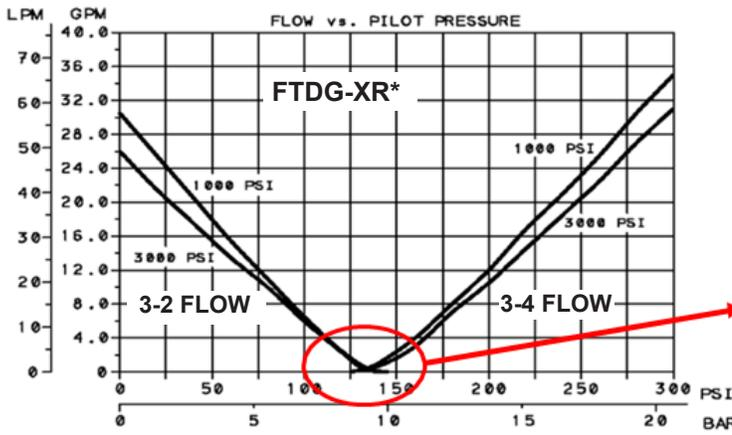

Figure 14
- Some flow takes place to both ports 2 and 4 during transition with the “R” spool. **Figure 14** shows flows with pressure differentials of 1000 and 3000 psi (70 and 210 bar).